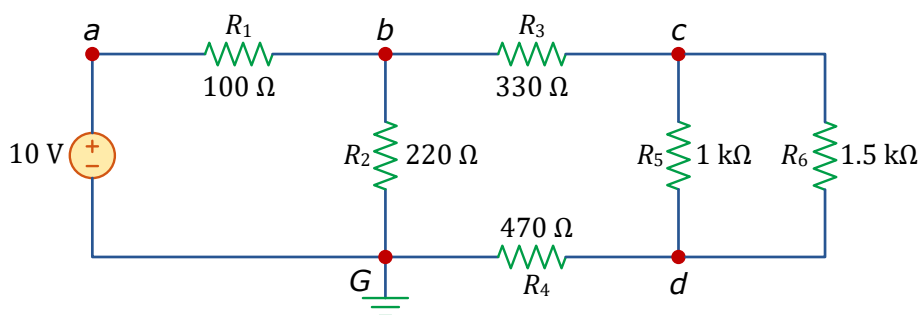

Figure 4.4: Resistive circuit for Lab Experiment 4.
- 1 Build the circuit of Figure 4.4 on your breadboard. Consider R_6 to be the load resistor. Measure the voltage across R_6 and the current through it (V_L and I_L), and calculate the power consumed (P_L).
- 6 Consider the same circuit as in Figure 4.4. Measure I_N as the **short-circuit current** between terminals c and d (where R_6 was connected).